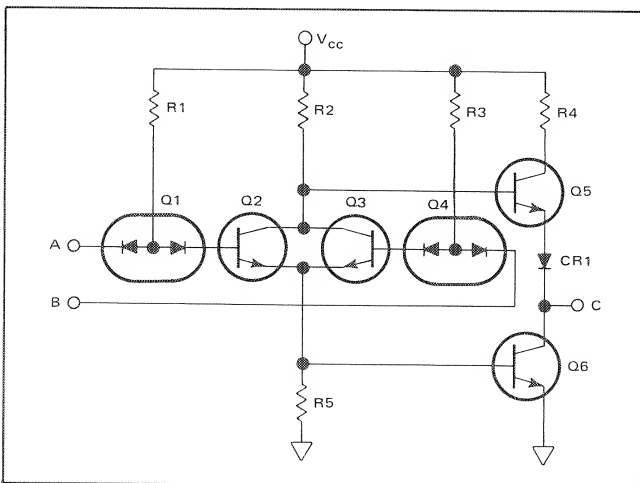

Figure 5.20 - Equivalent Circuit
5.100 The Nor gate is comprised of six transistors. The two input transistors, Q1 and Q4, are used as diode or gates (figure 5.20). Transistors Q2 and Q3 are voltage phase inverters. Transistors Q5 and Q6 form a totem-pole output. The totem-pole circuit has a low output resistance for both a high and low level.